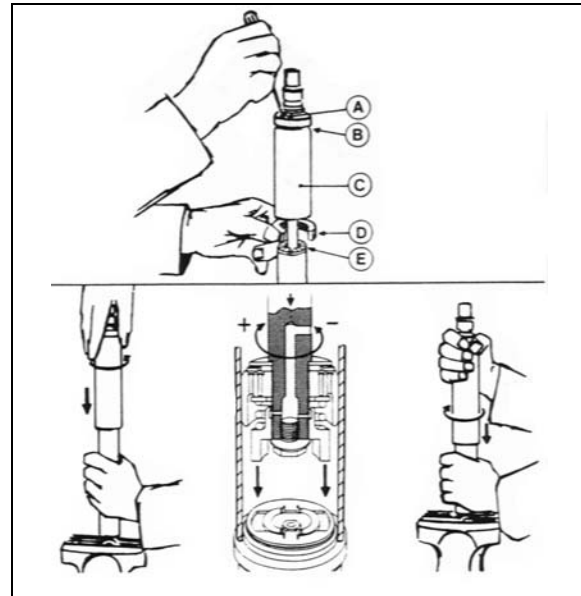

FIGURE 31: DAMPER
To adjust opening and closing cycle speed on damper (Figure 31):
2. Fully close the damper while turning the dust cap or piston rod slowly CCW until it is felt that the cams of the adjusting nut engage in the recesses of the foot valve assembly (Figure 31).
In Figure 31, if there is an indentation (B) in the dust cap (C) and the cover shows two holes (A), the damper is fitted with a bump rubber (D). If so, fully extend the damper and insert a round bar or screwdriver through the holes. Push the bump rubber down and remove. Remove the split plastic collar (E) (if fitted) from the piston rod.
Where a bump rubber was installed, refit same inside the dust cap and by fully closing the damper, the rubber will seat again at top of the dust cap. Refit the split plastic collar E (Figure 31).